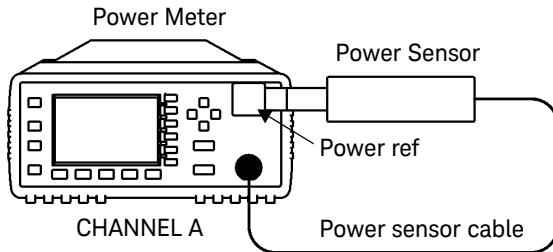

Figure 2-7 Sensor (Average Path) Functional Test Setup
Refer to Figure 2-7 and Figure 2-8 below.
- 1 Connect the equipment as shown in Figure 2-7.
14 Disconnect the 30 dB attenuator and reconnect the test setup as shown in Figure 2-7.